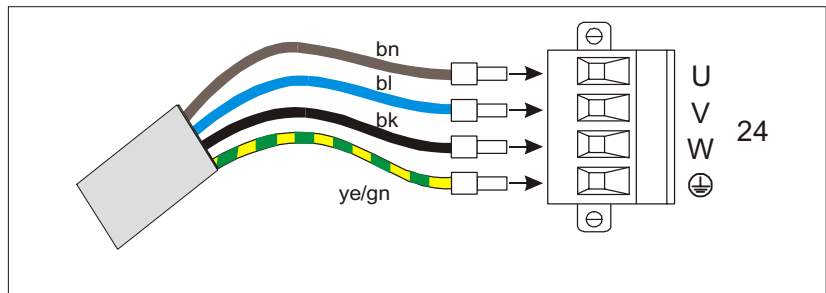

Fig. 2-7 Motor connection
1. Release the two screws and remove the connector (fig. 2-7) from the unit.